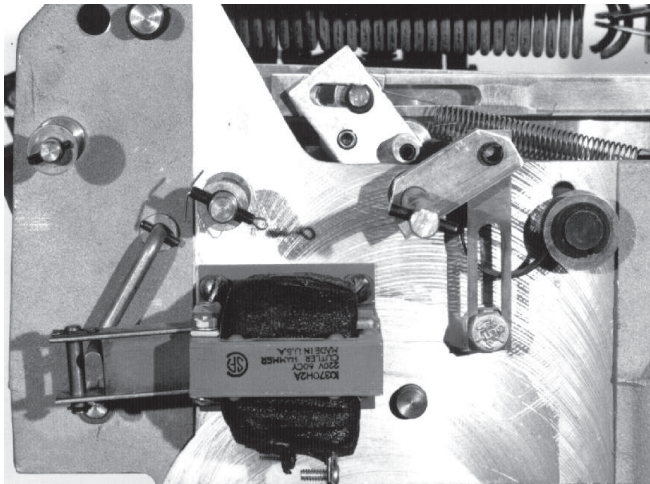

Figure 34. Remote lockout solenoid
A remote lockout solenoid (Figure 34) enables an external control to trip the recloser and cause lockout by dropping the yellow manual operating handle to the open position.
** JUNCTION BOX TERMINALS 6 and 7 - Refer to Figure 34.